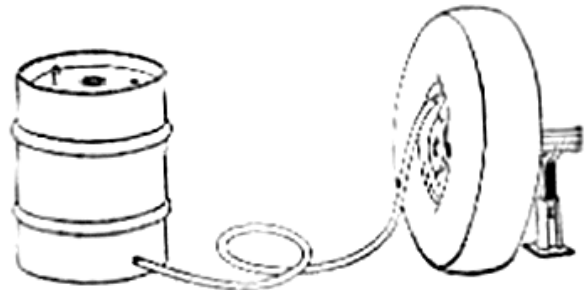

Fig. 39.
3. Pressure Tank; fill a closed container with liquid, which will withstand air pressure of 100 or more pounds, and attach air hose to inlet on container to force liquid into the tube. See Fig. 39.